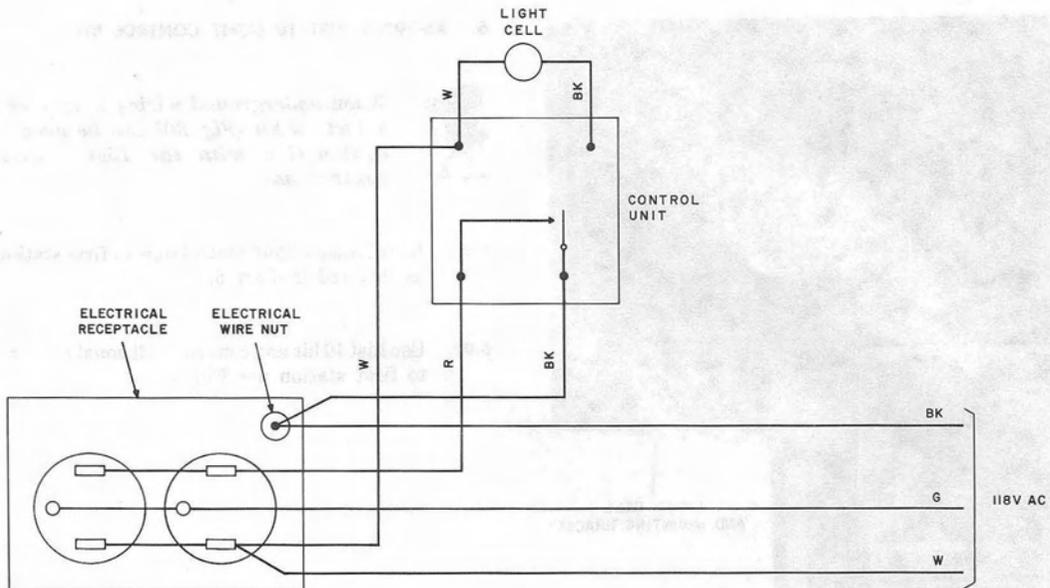

Fig. 19—Wiring Diagram of KS-19261, List 3 Light Control Unit
- (e) Connect control unit wires to electrical receptacle as shown in Fig. 19.
- (1) Remove electric wire nut (Fig. 19) from black wires. Connect black wire from AC power source to electrical receptacle on terminal opposite white wire.
- (2) If lamp illuminates, replace light control unit.
- (b) Connect wires of control unit to electrical receptacle of prime mounting as shown in Fig. 19.